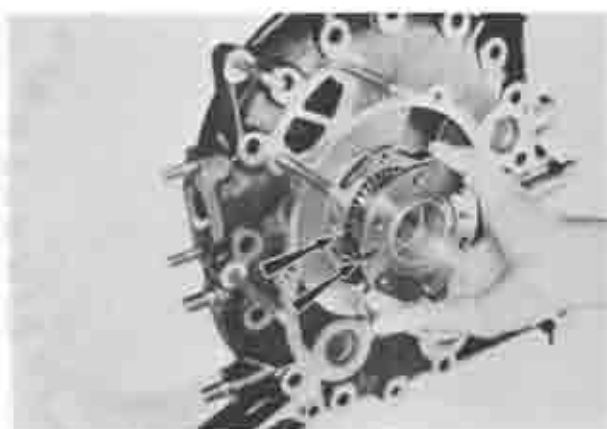

Fig. 1-43: Installing stationary gear
7. Install the stationary gear to the housing, aligning the slot of the stationary gear flange and the dowel pin, as shown in Fig. 1-43.